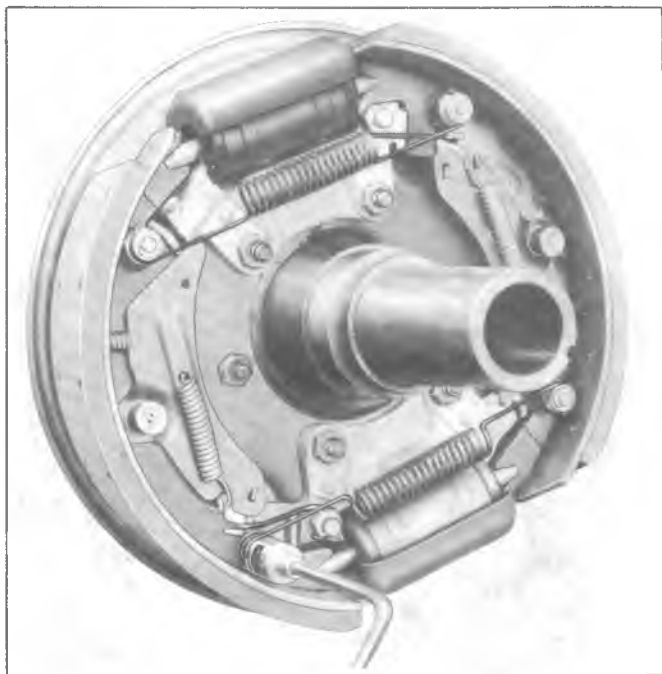

Fig. 50—Removing Pull Pack Spring with Tool J-22348
3. Using Tool J-22348 remove the brake shoe pull back springs (fig. 50).